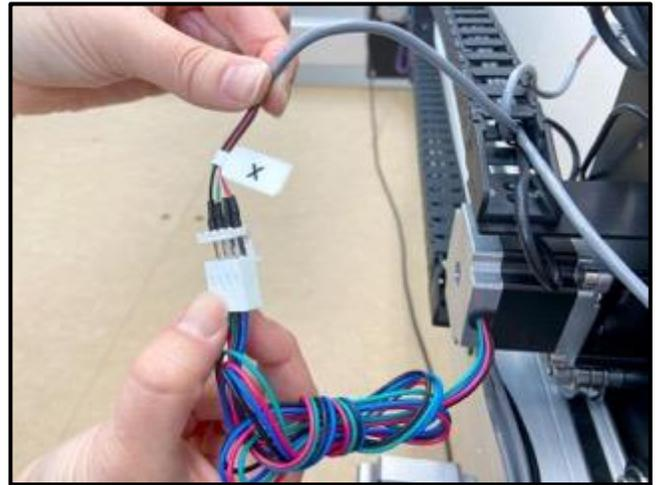

Figure 8-11
1. Connect the X-motor leads to the gray 4-pin extension cable labeled "X." See **Figure 8-11**.